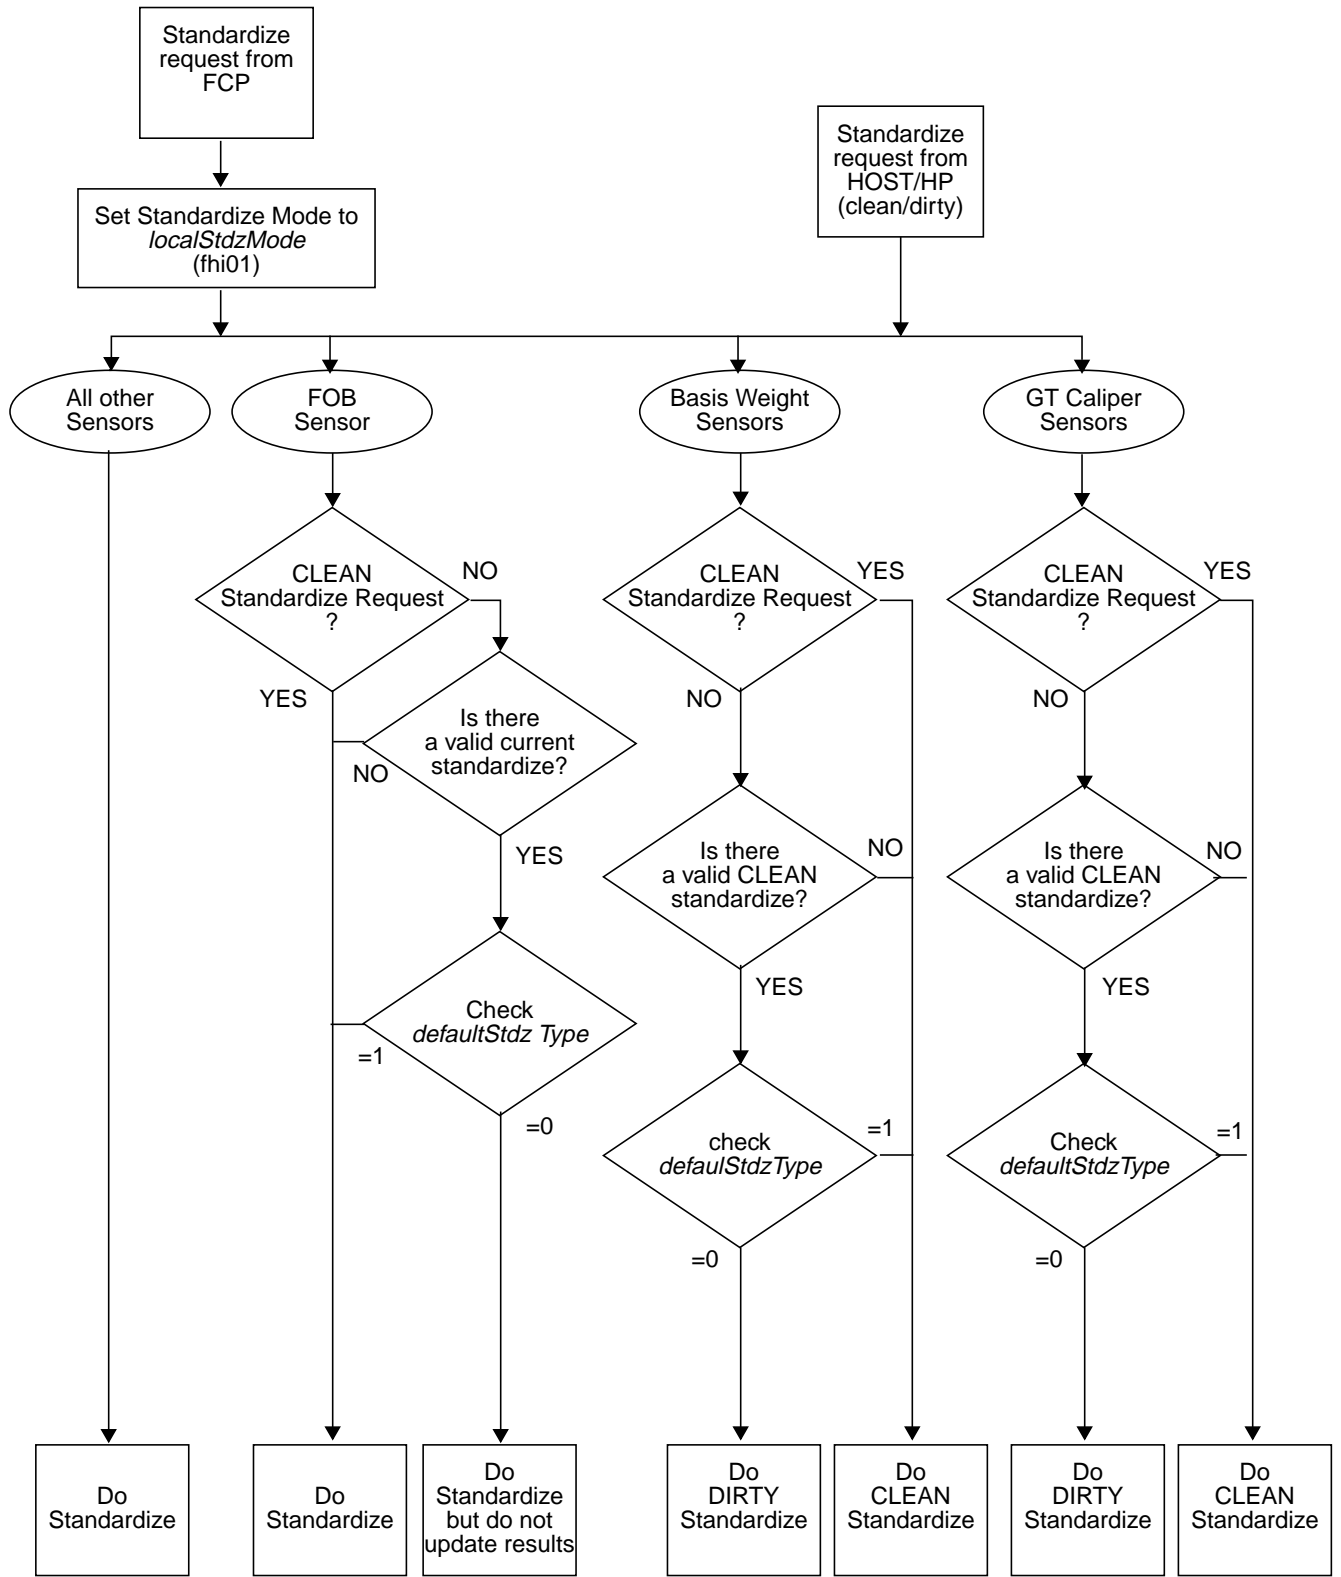

Figure 6-11 Standardize Mode Selection
Figure 6-11 on page 143 describes the standardize CLEAN/DIRTY mode selection that takes place when a standardize is requested from either the Host, the Health Pages (HP), or the Frame Control Panel (FCP). To summarize the three situations, whenever DIRT standardizes occur and are accepted by the sensors; the OptiPak sensor can be set up to basically ignore standardize requests, the Basis Weight sensor will take into account the effect on beam absorption when dust accumulates on the window, and the GT Caliper sensor will filter the sensor zero (SZERO) results for GT Caliper to adjust for the effects caused by dust on the probes.